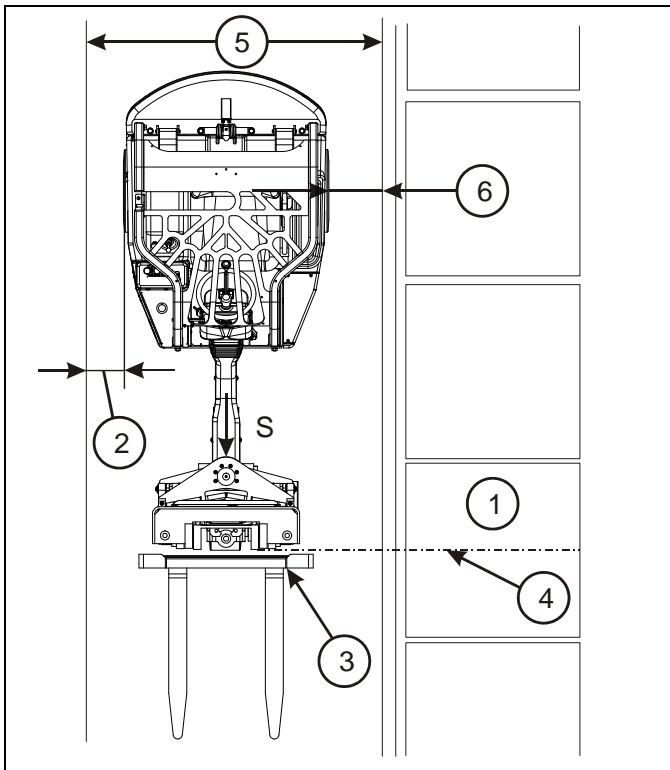

Figure 4-11: Setup - Load Pick Up
Actual minimum aisle width will vary based upon application. See Figure 4-11, item 5.
1. Approach the side of the aisle that is opposite the load, Item 1 - See Figure 4-11.
2. For narrow aisles, straighten out the truck so it is 8 in. from the edge of the aisle opposite the load Item 2 - See Figure 4-11. For wider aisles, straighten out the truck so it is 36 in. to 48 in. from the side of the aisle where the load is located. Item 6 - See Figure 4-11.
4. Drive forward until the front edge of the load wheels are aligned with the center of the pallet. Items 3 and 4 - See Figures 4-11 and 4-12.